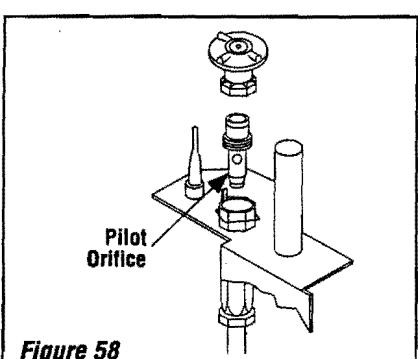

Figure 58
**Step 6.** Refer to **Figure 58** and remove the pilot hood assembly to access the hexed pilot orifice. Remove and replace the orifice with the one provided with the kit.